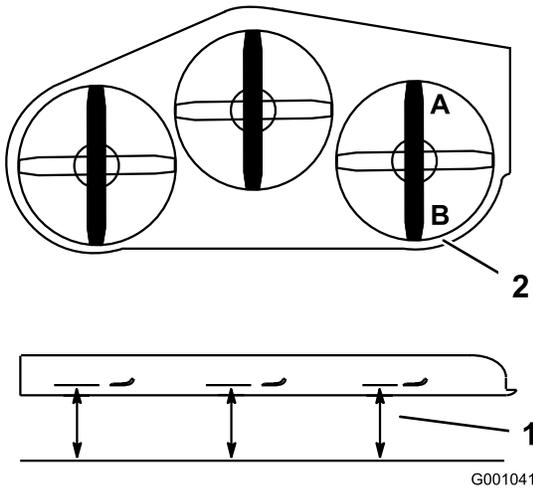

Figure 81
2. Position 1 blade front-to-rear. Measure at **A** and **B** locations from a level surface to the cutting edge of the blade tips (Figure 81).